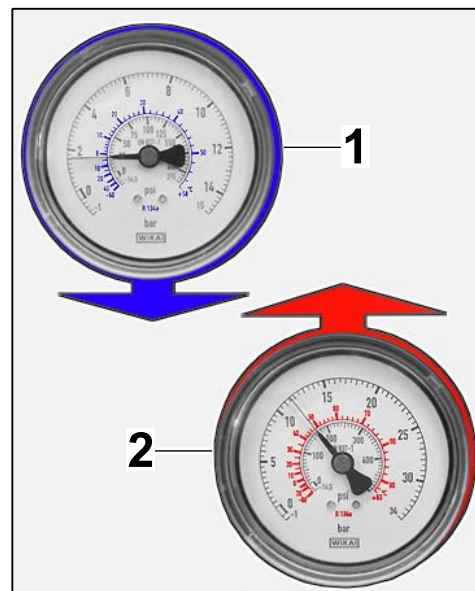

Figure 9
5.4.3 Check the performance of the new air-conditioning compressor (⇒ Figure 9).